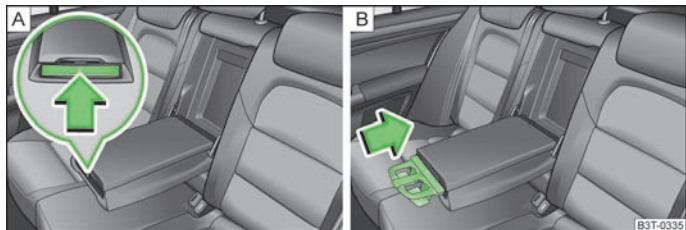

Fig. 84 Rear armrest: Cup holder/insert cup holder
- Press on the front end of the armrest in the direction of the arrow » Fig. 84 - **A**, the cup holder comes out.
- To slide the cup holder in again, press the middle part of the cup holder » Fig. 84 - **B** and slide it into the armrest.